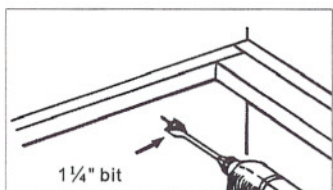

Fig.8
1. After turning off the proper 120 volt circuit at the service entrance, drill out the electrical power line access hole marked on the cabinet bottom or wall. Use a 1 ¼ "wood bit. To operate the electric drill, use an extension cord connected to another circuit. (Fig.8)